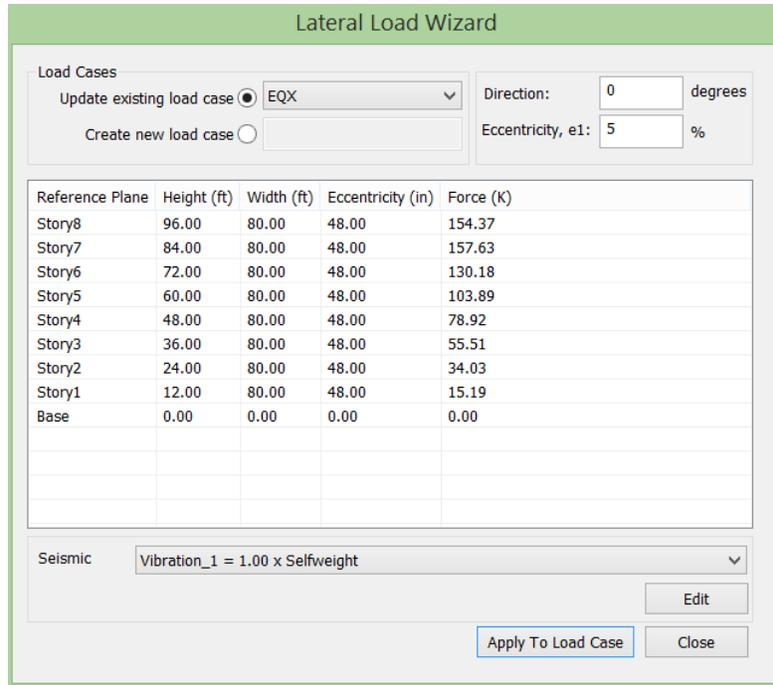

Figure 21 Lateral Load Wizard
- To review the applied lateral story forces, select *Loading* → *Lateral Load* → *Lateral Load Wizard*. The *Lateral Load Wizard* reports load cases and story forces at reference planes assigned to the load case imported from ETABS. See **FIGURE 21**.
From the *Case* drop-down menu, the program includes the option for selecting any imported (ETABS) or native (BUILDER) solution set for the available load cases. In this example, the Builder model has not been analyzed, so only the imported ETABS load cases are reported. This is denoted by the *(ETABS: G)* as shown in **FIGURE 21**. The “G” denotes that the load case solution is from a global analysis run. If “L” is shown, the solution is from a single-level analysis run.